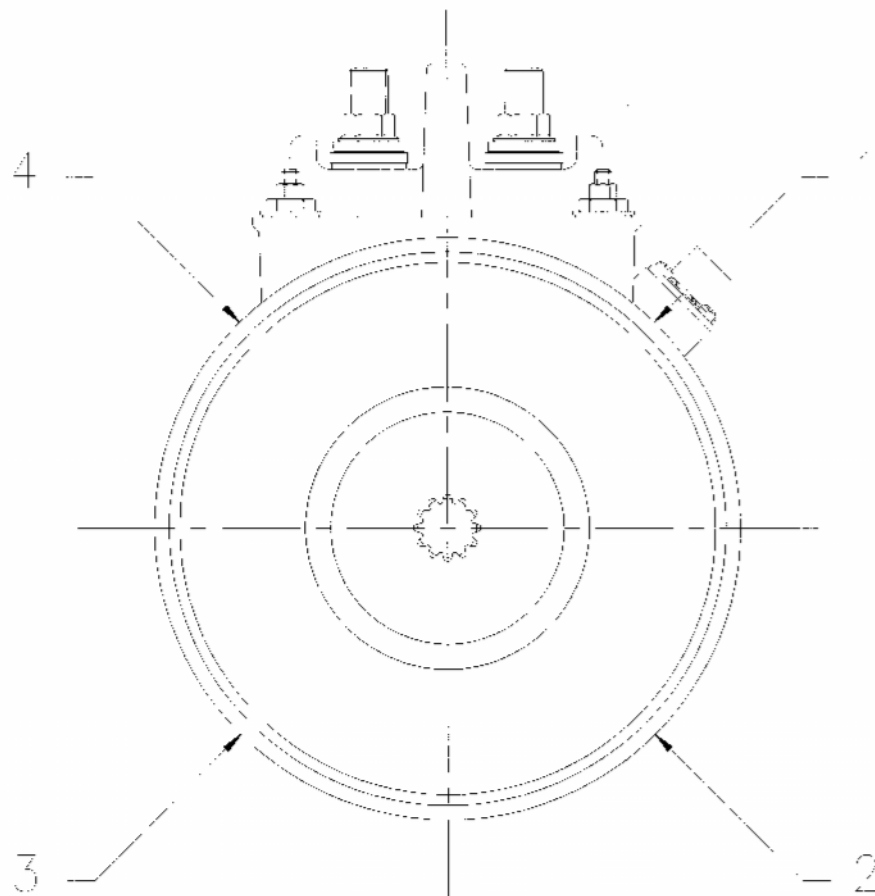

Figure 5 - Brush Numbering Viewed from the Drive End
- (1) Identify the brush holder assemblies with the numbers 1 through 4 as shown in Figure 5.
- (2) Remove the screws that attach the brush shunt leads to the brush holder assemblies.